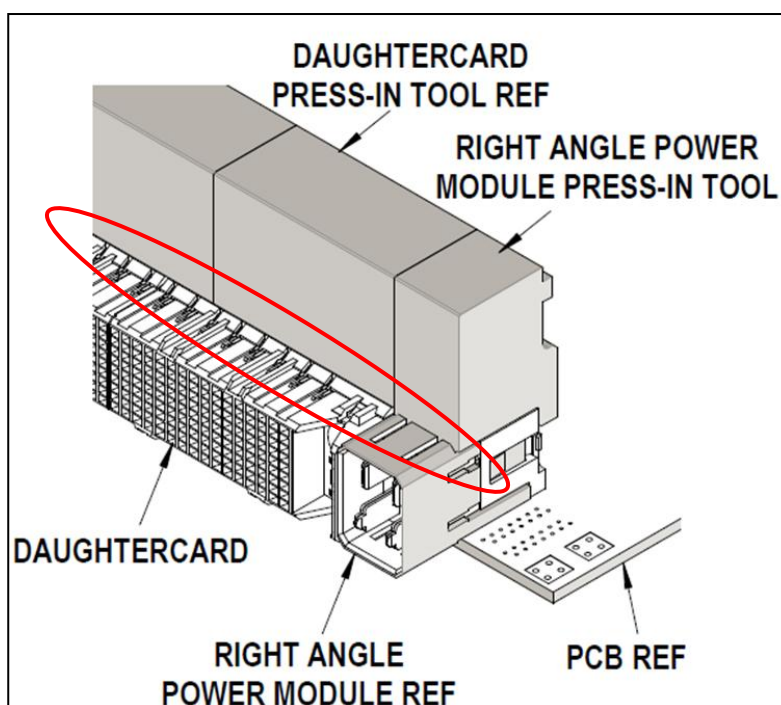

Figure 21: Correct tool or flat rock placement for right angle connectors – tool seated behind front housing ridge
- ii. If using Flat Rock– Do not make contact with front housing (see Figure 21)